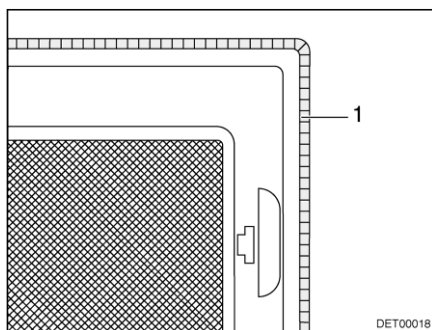

Fig. 50 Forced ventilation
**Forced ventilation** Depending on the equipment, the skylight will be equipped with a forced ventilation (Fig. 50,1). The skylights with forced ventilation are installed in the living area and in the toilet compartment.